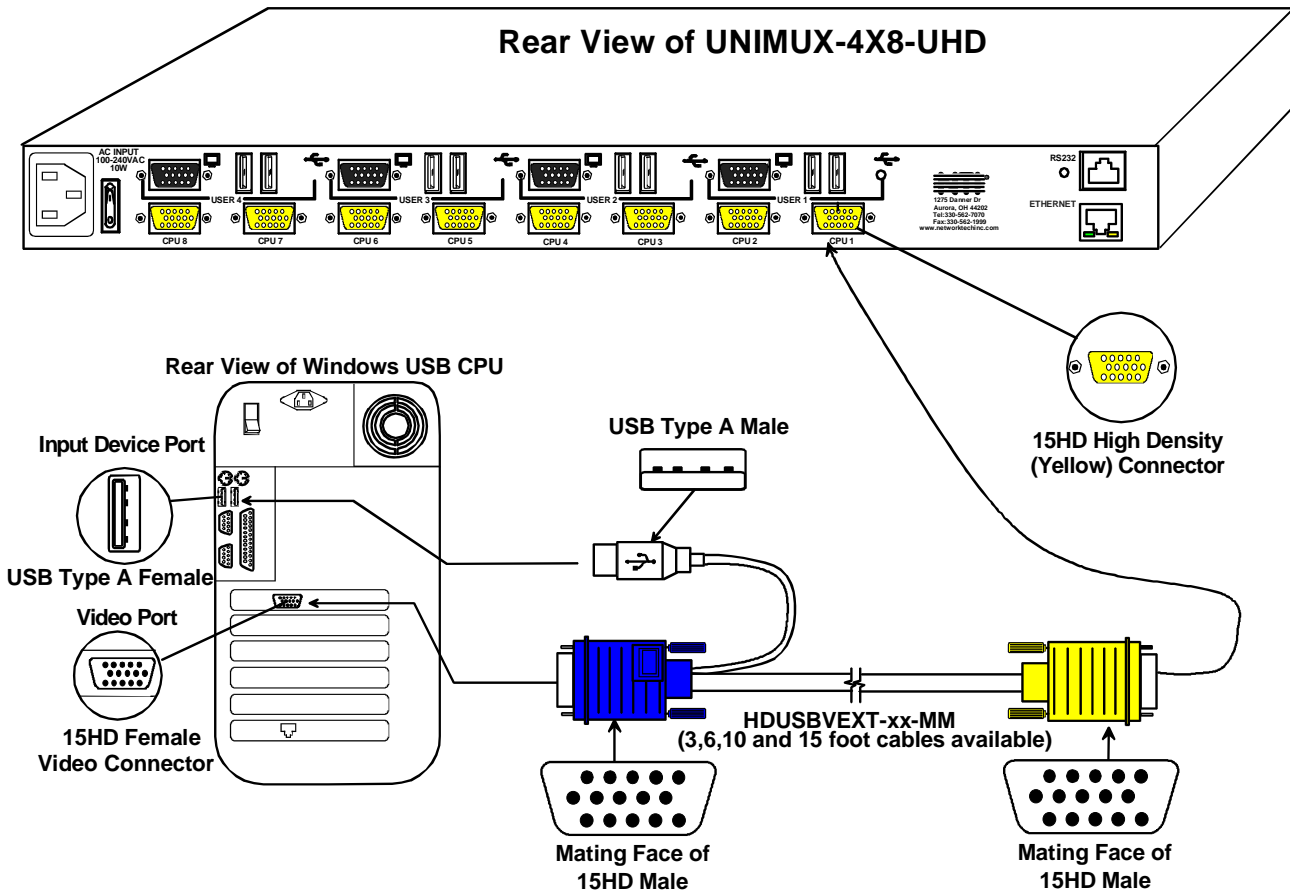

Figure 6- Connect each CPU using a HDUSBVEXT-xx-MM cable
- Connect the 15HD yellow male cable end of the HDUSB(VEXT)-xx-MM cable to a yellow “CPU x” port on the UNIMUX switch. (See Figure 6)